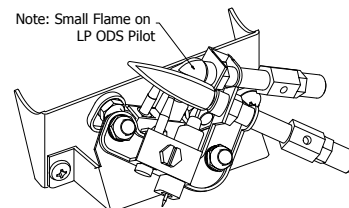

Fig. 16 - Pilot
4. Wait five (5) minutes to clear out any gas. Then smell for gas, including near the floor. If you smell gas, STOP! Follow "B" in the safety information to the left on this label. If you don't smell gas, go to the next step.
5. Turn control knob counterclockwise  to the "PILOT" position (See Fig. 16). Depress control knob.
7. Keep control knob depressed for (30) seconds after pilot lights. Release control knob.
- If pilot goes out repeat steps 3 through 7. Wait (1) minute before attempting to light pilot again. If after several tries the pilot still goes out, turn the gas control knob clockwise  to the "OFF" position and call a qualified service technician.